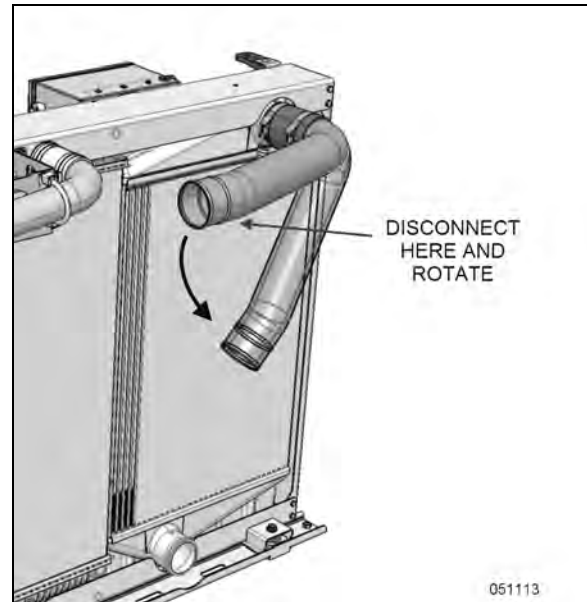

FIGURE 44: ROTATE CAC UPPER PIPE
5. Disconnect the upper CAC pipe: It is possible to disconnect the pipe middle section junction and loosen the hose clamps at the CAC connection to pivot down the pipe and clear the radiator (Figure 44).